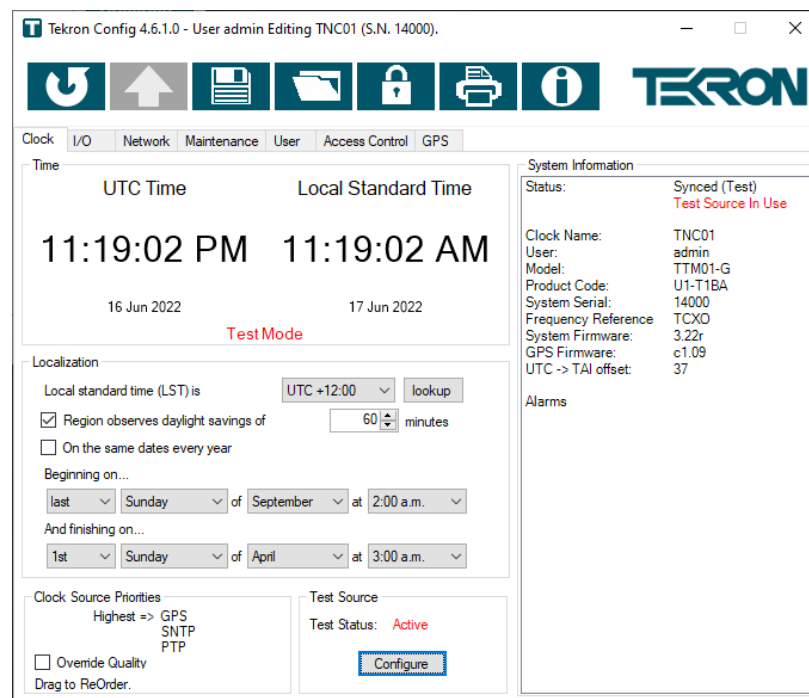

Figure 15 - Example of clock in Test Mode
4. “TST” appears on the front panel LCD of the clock (where fitted). Refer to Figure 15.